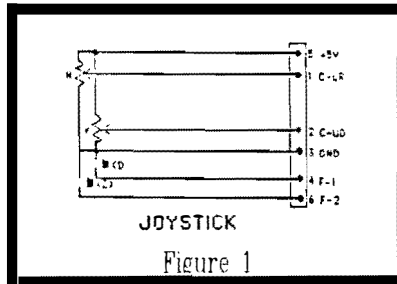
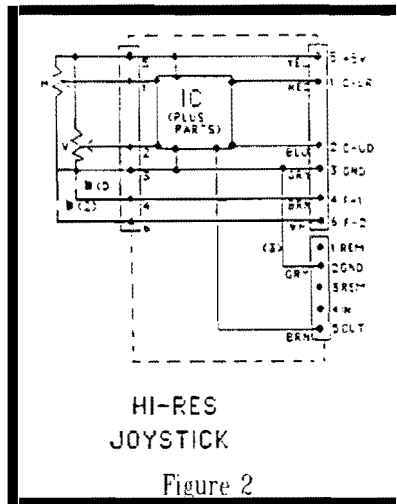

Figure 1
Figure 2
Take a look at figure 1 to see the standard joystick wiring to the color computer and compare it to figure 2, which is the High Resolution Joystick connection to the color computer. Notice that pin 1 and pin 2 are interrupted by the integrated circuit (IC) in the HI-RES Interface. By simply switching the IC in and out of the circuit it's possible to have both LOW and HI resolution operation by the flip of a switch.
Also notice in figure 2 that the 5-pin jack is the cassette port and that pin 5 is monitored by the IC in the hi-res interface. It's not necessary to disconnect the cassette tape recorder during hi-res operation.